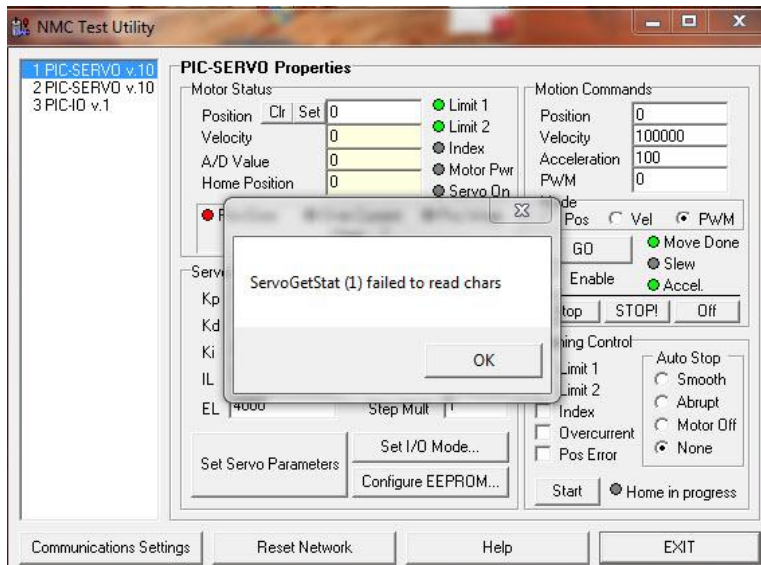

Fig 4.
Repeat this process 10-20 times if there is no errors (Fig 4) then select servo 2 (8) and repeat the above process this time driving the angle instead of the length.
**you may need to use a positive number in the position (2) to drive the angle in the normal direction of rotation*